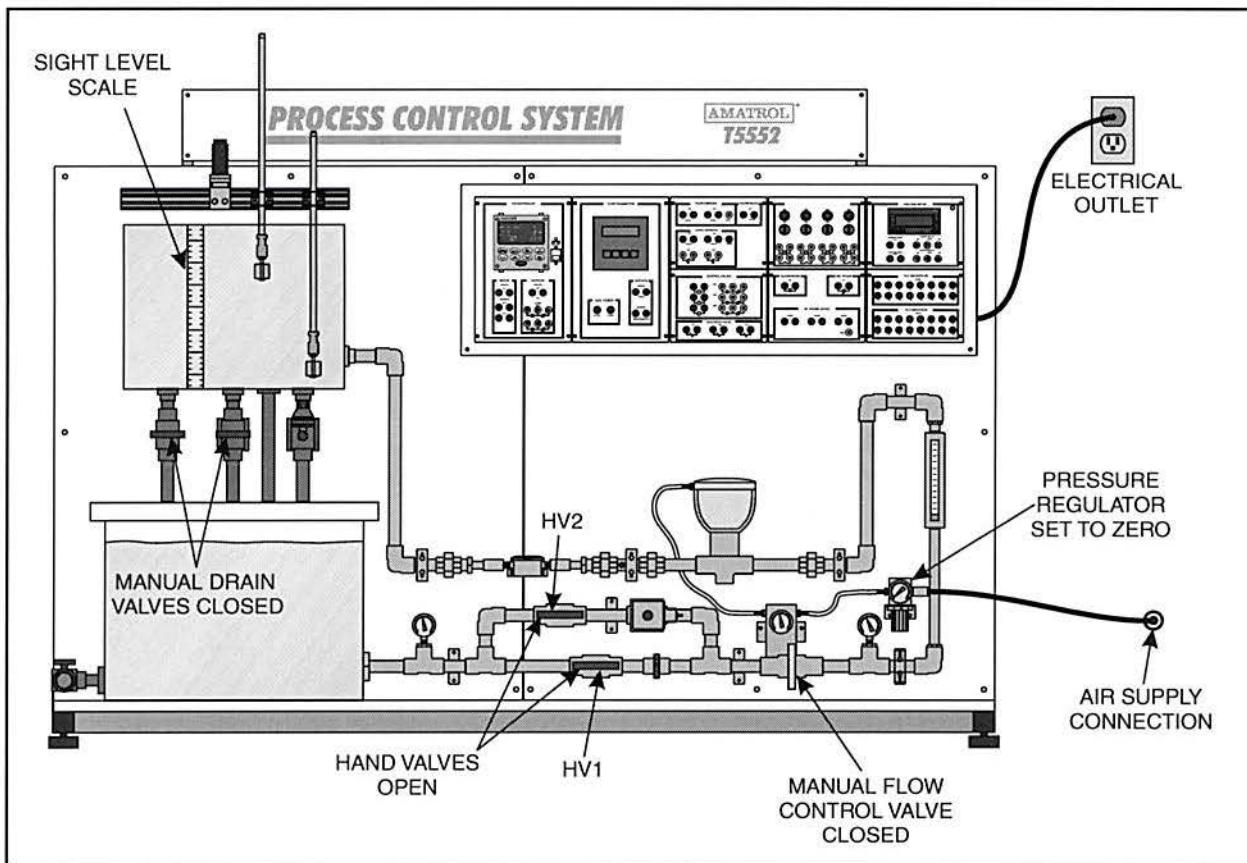

Figure 67. T5552 Setup
- 2. Perform the following substeps to set up the T5552, as shown in figure 67.